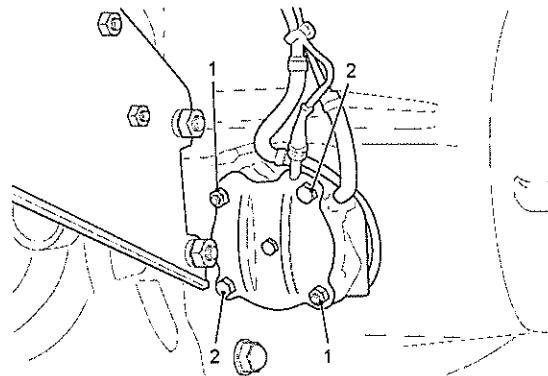

Fig 23 Pneumatic diff lock actuator securing screws
- 61 If previously removed, insert bottom rubber support (see Fig 22) and lower support shim (see Fig 23/2) and fit towing flange. If necessary, press rear axle downwards/body upwards to aid installation.
70 Unscrew 2 off nuts only (see Fig 23/1) securing pneumatic diff lock actuator. The 2 off hexagon screws (see Fig 23/2) secure the pneumatic diff lock actuator housing halves and must not be removed.